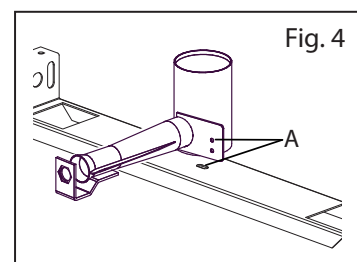

Fig. 4
**Solid top 700:** Unscrew the retaining nut at the crosspiece and the pilot group (Fig. 4/A) / Remove the burner/Position the new burner/ Tighten the burner at the crosspiece and the pilot group